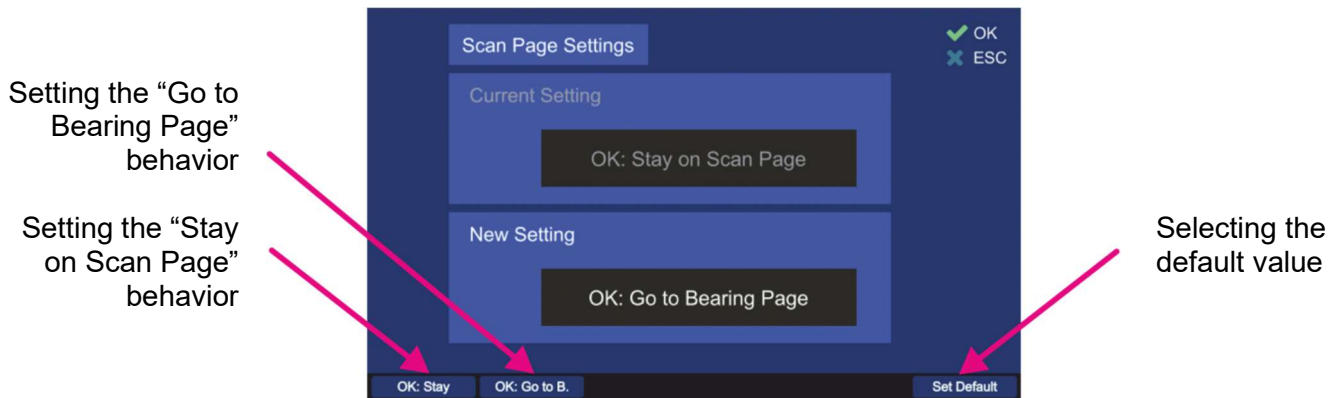

Figure 132. Scan page settings dialog
- By pressing the “OK button or hotkey “Edit Value”, while the setting “Scan Page Settings” is marked, the following dialog is opened (s. Figure 132).
- Choose the new setting using one of the hotkeys (s. Figure 132), which will then appear in the “New Setting” field.